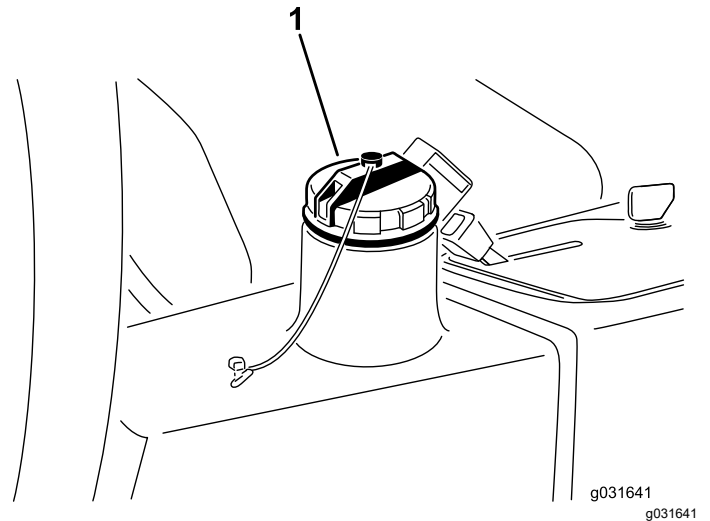

Figure 66
4. Fill the reservoir (Figure 66) with approximately 13.2 L (3.5 US gallons) of hydraulic fluid; refer to Hydraulic Fluid Specifications \(page 54\) and Checking the Hydraulic Fluid Level \(page 54\).